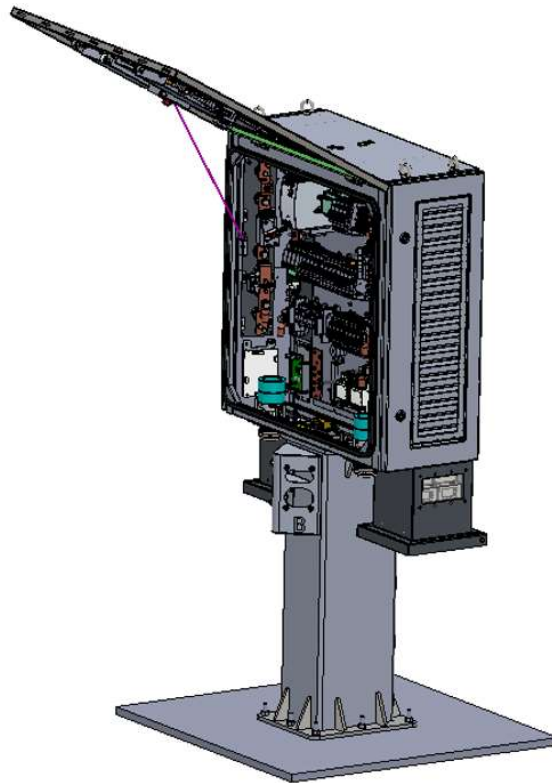

Figure 31 Open the front door
(4) Installation charging module please refer to wall-mounted type in Figure 31.